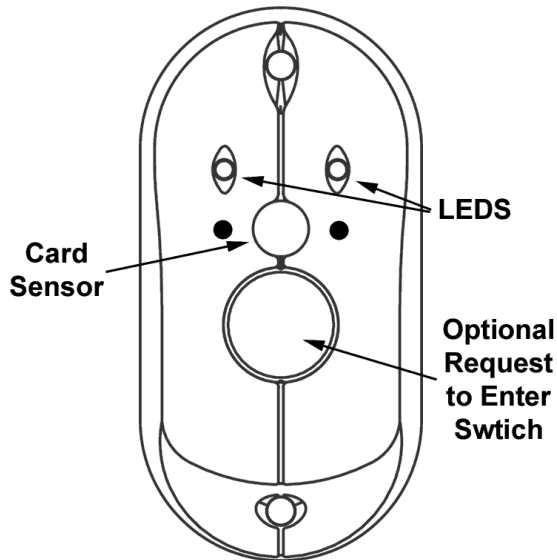
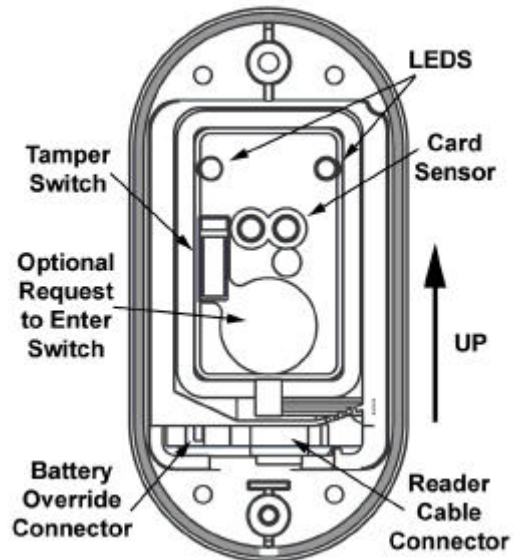

Figure 2-19 – Reader Cover Components
Figure 2-20 – Reader Base Plate Components
The Reader consists of two major components: the Reader Cover (Figure 2-19) and the Reader Base Plate (Figure 2-20). The Reader is mounted on the outside of the door.
- 2.12.5 If the Reader is equipped with an optional Request to Exit Switch (Figure 2-19), before installing the Reader Cover, route the Request to Enter switch wires through the Reader Cable Hole from the Reader side to the Transceiver side of the door. On the Transceiver side, connect the Request to Enter wires to the mating connector.